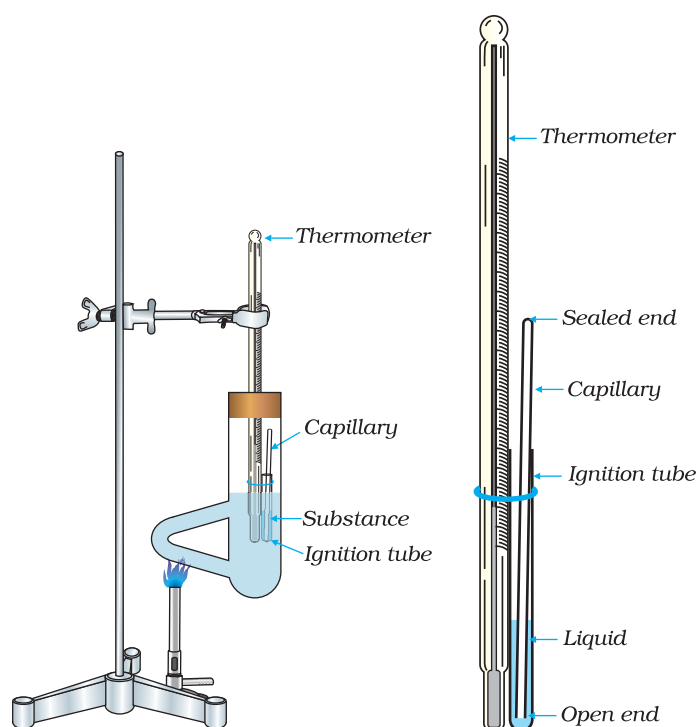

Fig. 3.2: Determination of boiling point
- (ii) Take 1-2 drops of the given liquid in an ignition tube and tie the ignition tube with the thermometer with a rubber band as shown in Fig. 3.2. Note that the lower end of the ignition tube and the thermometer bulb are at the same level.